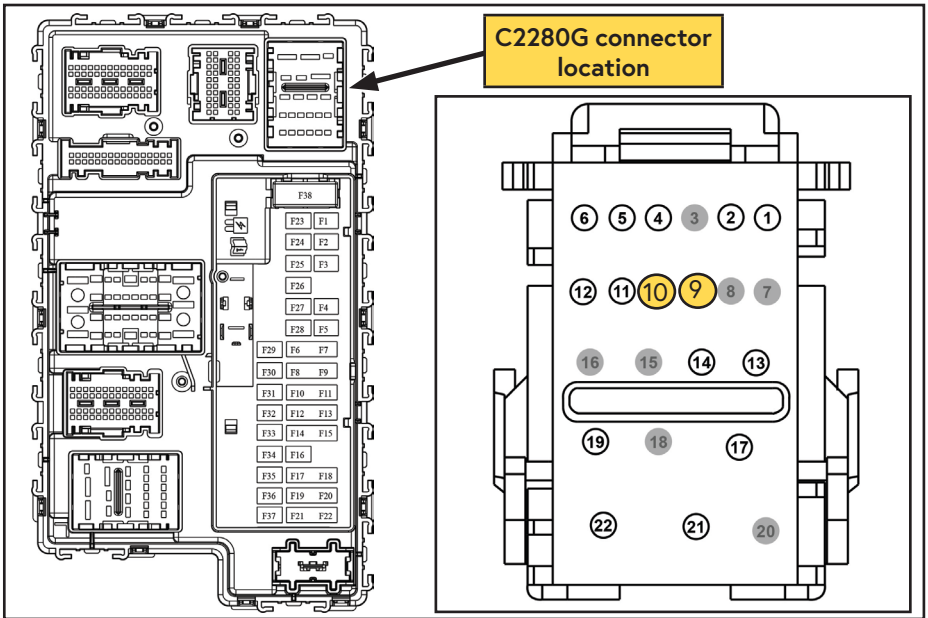

Figure 56 — BCM and C2280G connector
- Disconnect the C2280G connector and locate the white wire at pin 9 (CAN L), and the blue wire at pin 10 (CAN H) (Figure 56).